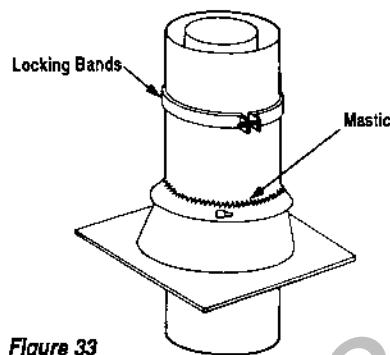

Figure 33
Step 9. Superior locking band, Model 10LB, may be required if the chimney extends too high above the roof flashing. As a general rule, if the chimney extends more than 6' (1.8m) above the roof/flash, the use of locking bands is advisable to strengthen the chimney joints. Align the locking band at the pipe joint. Locking bands wrap around pipe joints equally covering the joints of both pipe sections. Use nut provided and TIGHTEN snugly. Do not over tighten as this might damage chimney section (Figure 33).